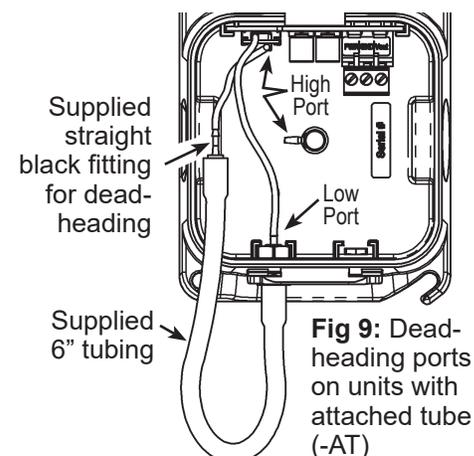

Fig 9: Dead-heading ports on units with attached tube (-AT)
3. Disconnect the short clear tubing from the 90° black high pressure Attached Tube fitting with your fingers (Fig 9). A pliers may cut the tubing.
4. Connect the clear tubing to the supplied straight black fitting on the 6" tubing (Fig 9). Do not kink the tubing.